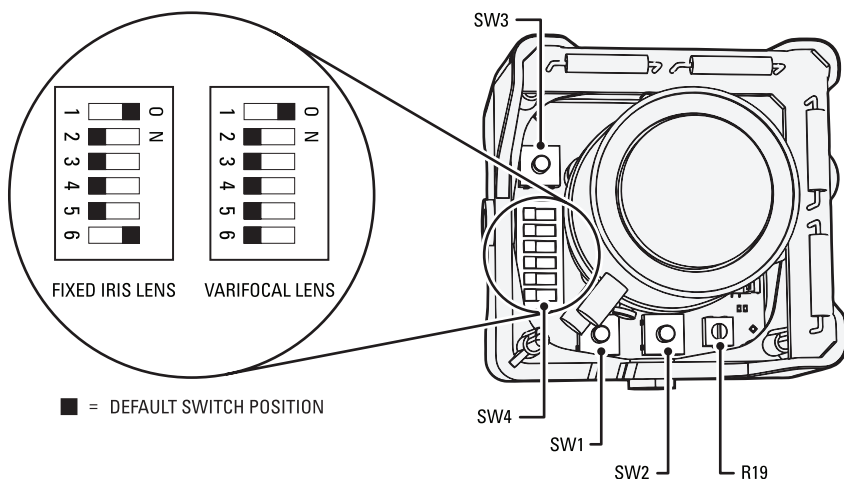

Figure 9. Adjusting the IS150-DN/CH Series Camclosure
Refer to Figure 9 to adjust the IS150-DN or IS150-CH model.
To adjust the auto iris DC-drive level (refer to Figure 9 on page 16):
2. Select the camera to synchronize. Use buttons SW1 and SW2 to synchronize the camera to the reference camera (refer to Figure 9 on page 16). SW1 increases vertical phase; SW2 decreases vertical phase.
To manually correct defective pixels (refer to Figure 9 on page 16):